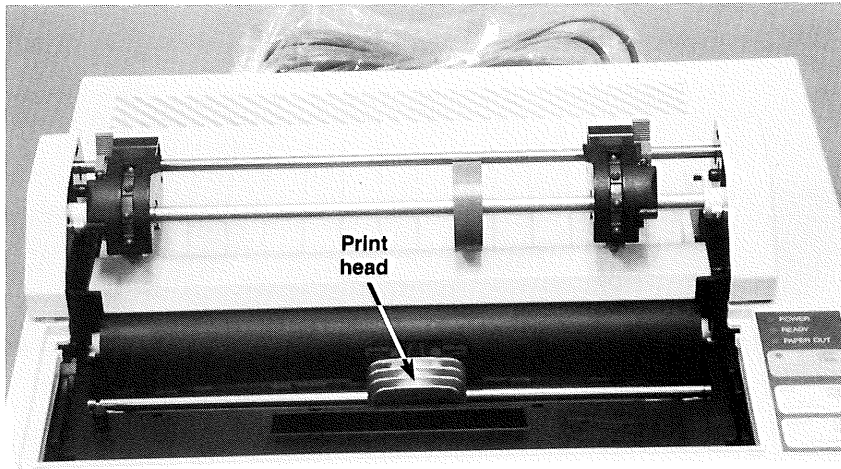

Figure 22.
35. If the printer has been in use, wait a few minutes to allow the print head to cool. Move the print head to the center of the printer. See Figure 22.